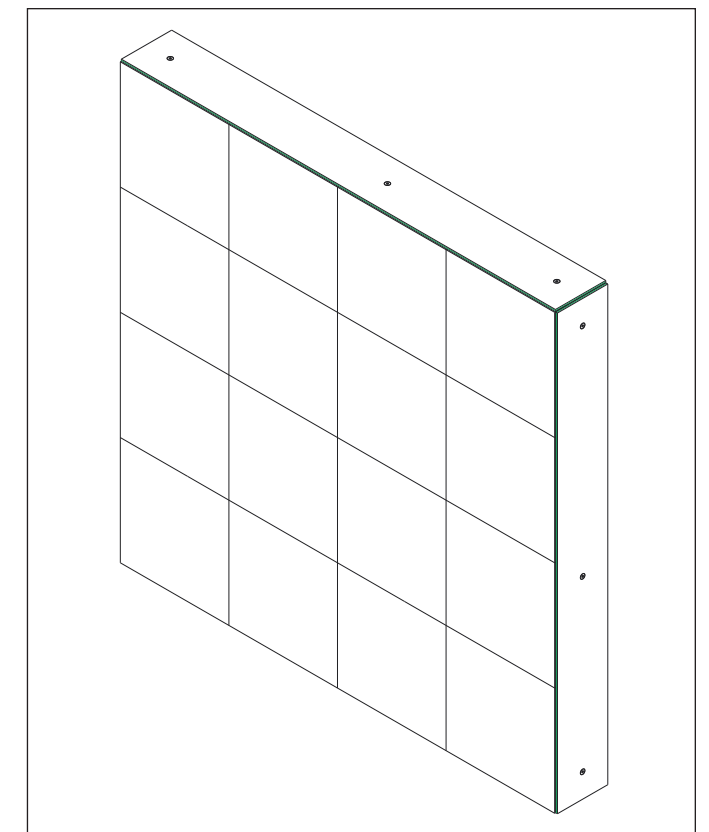

Figure 3: Fasten Border to Panel
5. Use a T25 6-lobe bit to attach the M5-0.8 x 12 mm thread-rolling screws (HC-4782939) and fasten the border to the panels in all pre-punched countersink hole locations on the borders. Each panel has holes for borders on all four sides. Refer to **Figure 3** for the finished appearance.